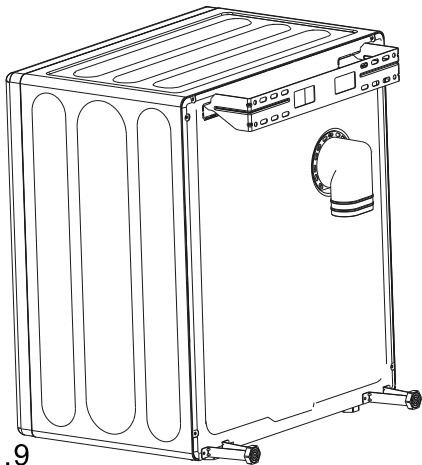

Fig.9
- With assistance, carefully mount the Tumble Dryer on to the Hanging Bracket. (Fig.9)